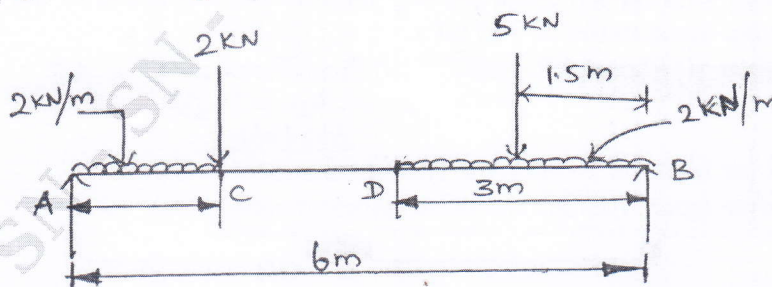

Fig.Q3(a)
- 3 a. A simply supported beam AB, 6 m long is loaded as shown in Fig.Q3(a). Draw the shear force and bending moment diagrams for the beam.